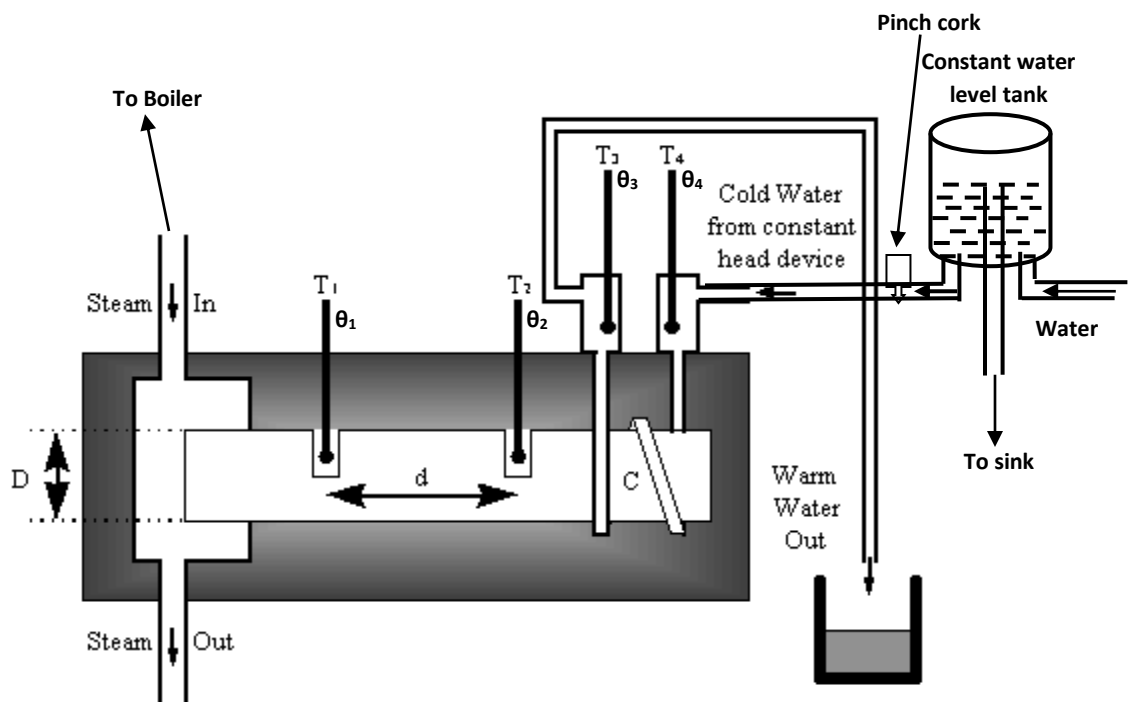

Fig. 1 Searle's Conductivity Apparatus
The Searle's apparatus to measure the thermal conductivity of a solid is shown in Fig. 1. The solid is taken in the form of a cylindrical rod A B. One end A of the rod goes into a steam chamber through which steam is passed from a boiler. A copper tube is coiled around the other end B of the rod. This end B is cooled by circulating a steady flow of water maintained in the copper tube by constant water level tank. The flow of water is adjusted using pinch cork such that water comes drop by drop from the exit side. Water enters the tube at the end away from the steam chamber and it leaves at the end nearer to it. Thermometers T3 and T4 are provided to measure the temperatures of the outgoing and incoming water. Two holes are drilled in the rod and the temperature of the rod is also measured at these places with the help of thermometers T1 and T2. The whole apparatus is covered properly with layers of an insulating material like wool or felt, so as to prevent any loss of heat from the sides. Steam is passed into the steam chamber and a stream of water is maintained. The temperatures of all the four thermometers rise initially and ultimately become constant when the steady state is reached. The readings θ_1 , θ_2 , θ_3 and θ_4 are noted in steady state.
1. Make the set-up as shown in Fig. 1
4. Insert all the 04 thermometers in their respective places as shown in Fig. 1